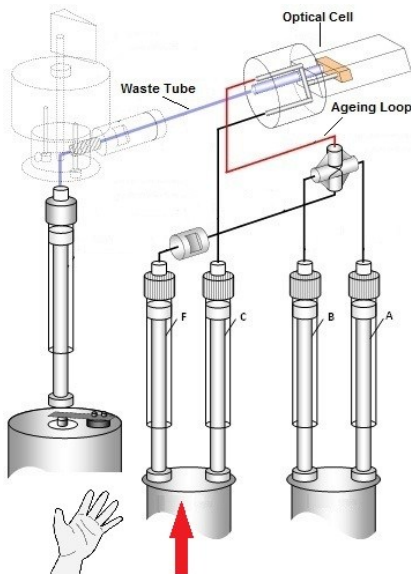

Figure 3
- 3) Refill the drive syringes with the liquid. Turn the control valves to the drive (forwards) position. Completely empty the stop syringe. Push the drive ram up, by hand, until the stop syringe is full (see Figure 3). Repeat this step at least three times.